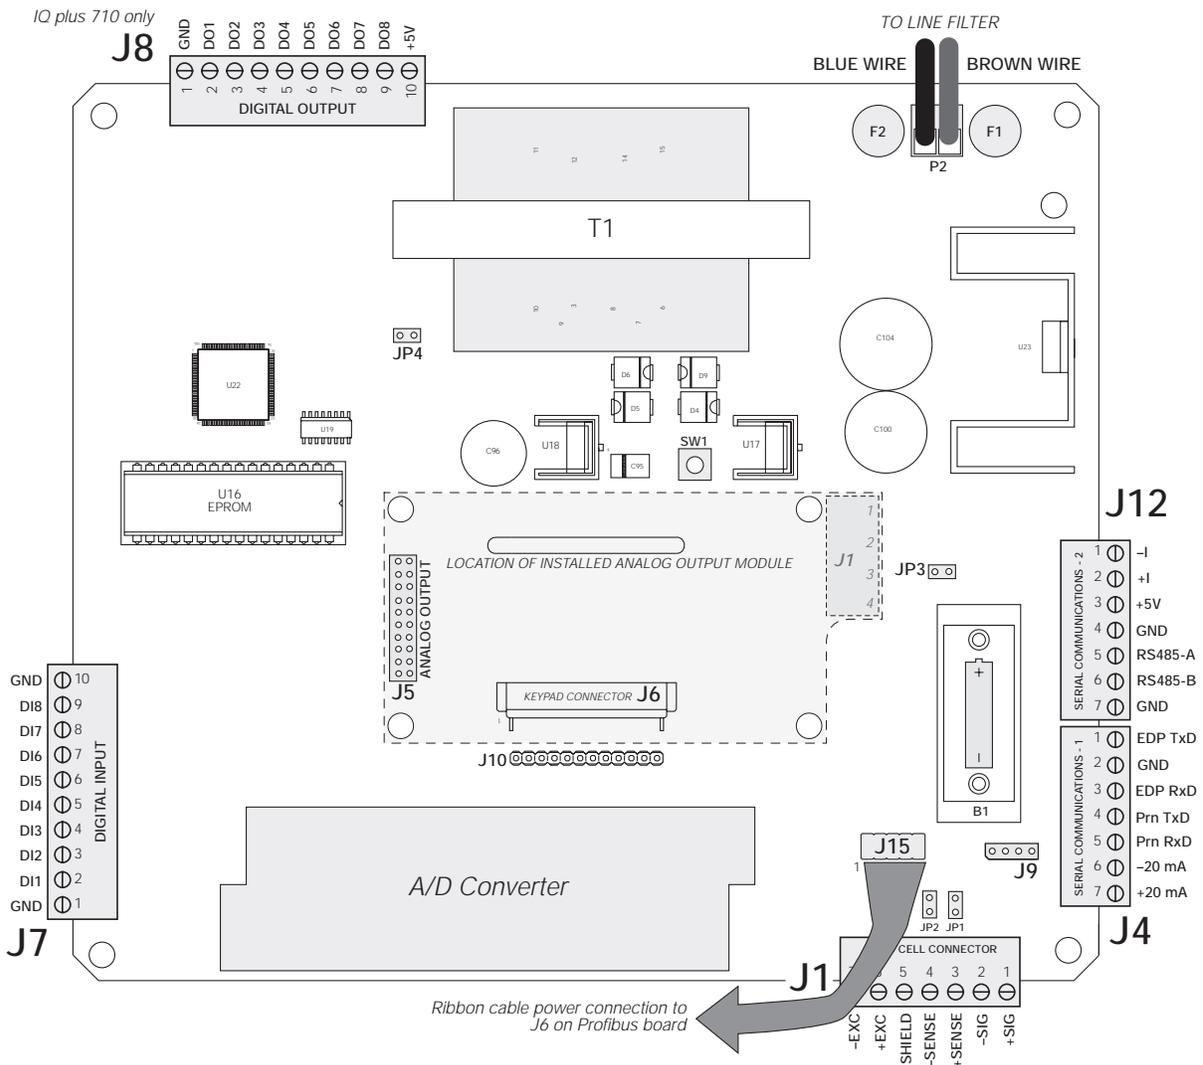

Figure 2-4. IQ plus 510/710 CPU and Power Supply Board
- Power supply ribbon cable from connector J15 on the indicator CPU/power supply board (see Figure 2-4 on page 5) to connector J6 on the Profibus board.